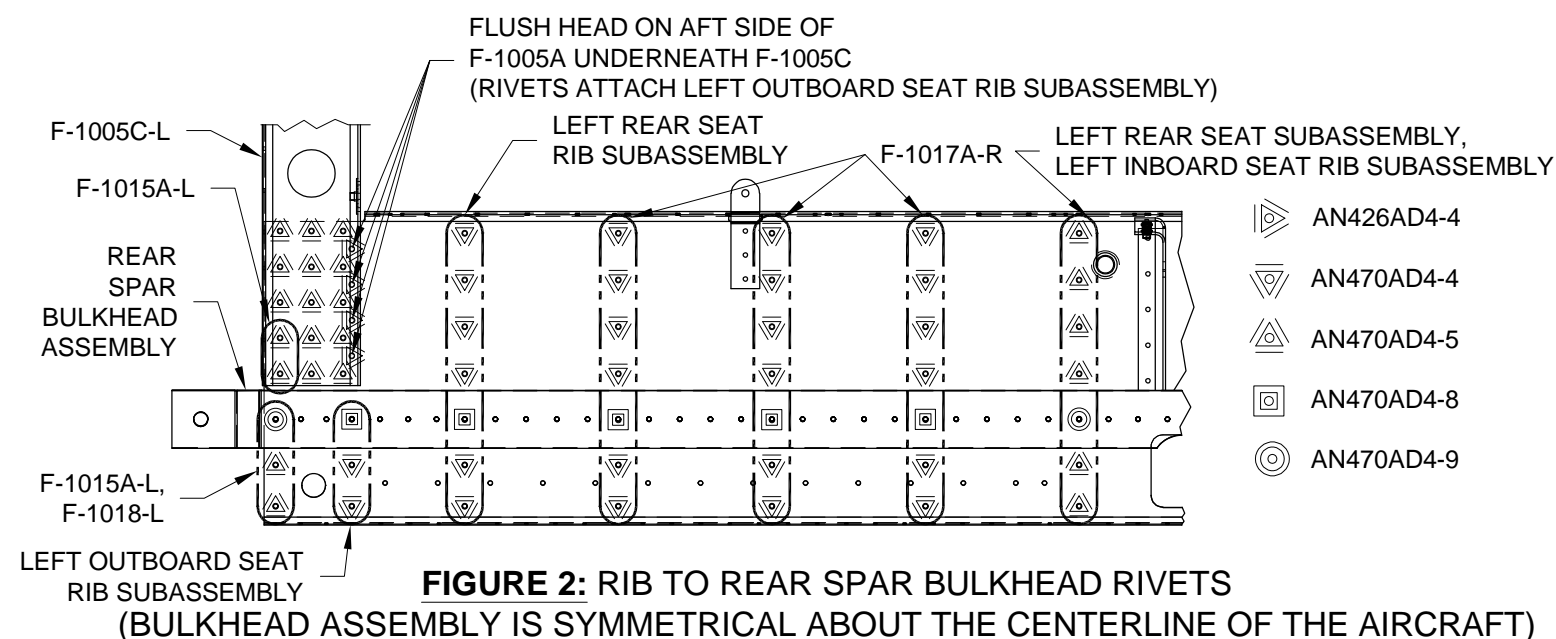

FIGURE 2: RIB TO REAR SPAR BULKHEAD RIVETS
Step 5: Cleco the F-1017A-L and -R Rear Seat Ribs, Left and Right Rear Seat Rib Subassemblies and F-1018-L and -R Outboard Rear Seat Ribs to the Rear Spar Bulkhead Assembly as shown in Figure 2 and Figure 3. Final-Drill #30 all the holes common between the ribs and the rear spar bulkhead.